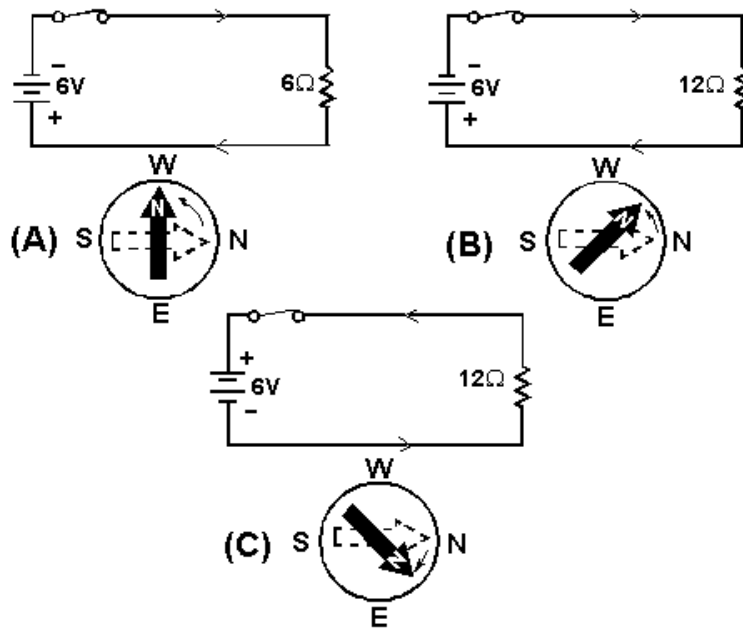

Figure 1-2.—Compass and conductor with direct current.
You know that an electrical conductor in which current flows has a magnetic field generated around it. If a compass is placed close to the conductor, the compass will react to that magnetic field (fig. 1-2).
If the battery is disconnected, the north end of the compass needle will point to magnetic north, as illustrated in figure 1-2(A) by the broken-line compass needle pointing to the right. When the battery is connected, current flows through the circuit and the compass needle aligns itself with the magnetic field of the conductor, as indicated by the solid compass needle. The strength of the magnetic field created around the conductor is dependent upon the amount of current.
In figure 1-2(A), the resistance in the circuit is 6 ohms. With the 6-volt battery shown, current in the circuit is 1 ampere. In figure 1-2(B), the resistance has been changed to 12 ohms. With the 6-volt battery shown, current in the circuit is $1/2$ or .5 ampere. The magnetic field around the conductor in figure 1-2(B) is weaker than the magnetic field around the conductor in figure 1-2(A). The compass needle in figure 1-2(B) does not move as far from magnetic north.
In figure 1-2(C), the battery connections are reversed and the compass needle now moves in the opposite direction.